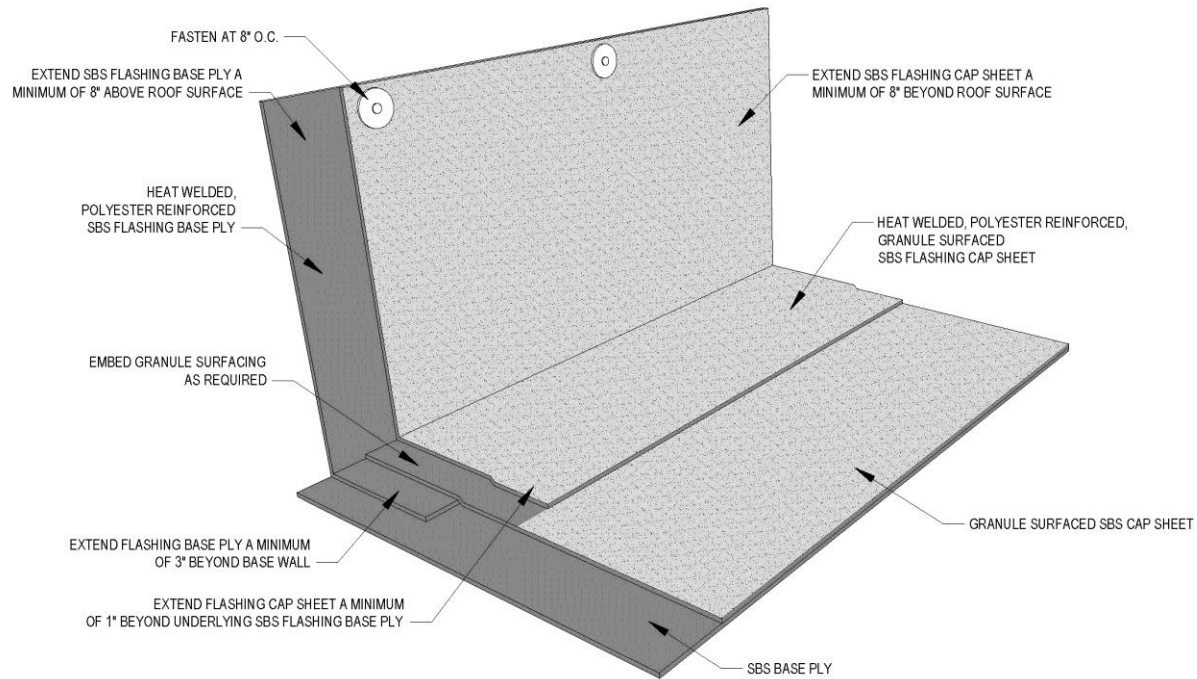

Figure 3.1.2a Fully Adhered, Heat Welded Wall/Curb Flashing On Granular Surfaced Cap Sheet Without Cant
- Flashing cap sheet: Heat welded, polyester reinforced granule-surfaced cap sheet, or heat welded foil/film clad flashing cap sheet. Refer to Figures 3.1.2a and 3.1.2b.
- Install the flashing cap sheet starting at the top leading edge of the vertical substrate, down over the cant and onto the roof surface 1 in beyond the underlying flashing base ply. Install the flashing cap sheet to ensure a minimum two (2) ply flashing system is present at all roof terminations, transitions and penetrations. Refer to Figures 3.1.2a through 3.1.2d and 3.1.2k through 3.1.2r.